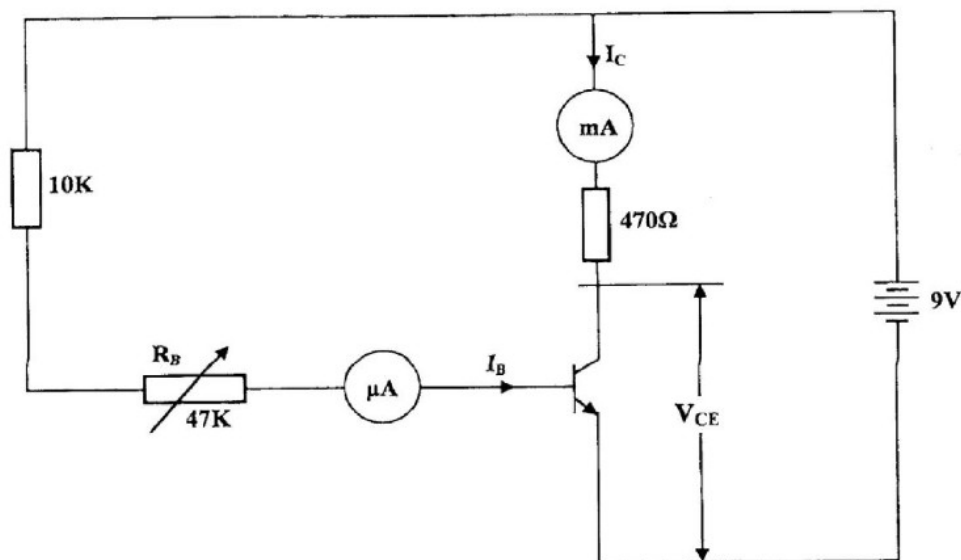

Figure 1
- (a) Connect the circuit as shown in **figure 1**. Let the examiner check your work. (7 marks)